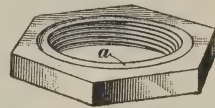

FIG. 29
**44.** **Locknuts** are used, as previously described, to make up joints on long screws, etc. They are also used on the ends of pipes to serve as supports, or to protect threads in shipping. A locknut is shown in Fig. 29. The face *a* screws against the gasket and is faced and slightly countersunk.